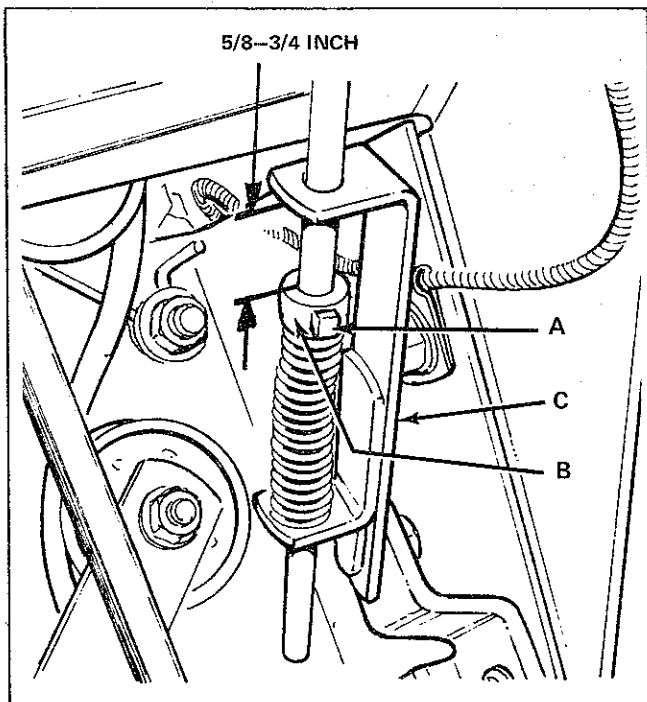

Figure 8. Clutch Rod Adjustment
3. Loosen set collar setscrew (A, Figure 8) and position set collar (B) to obtain $5/8$ to $3/4$ of an inch between rod guide (C) and collar. Tighten set collar setscrew.